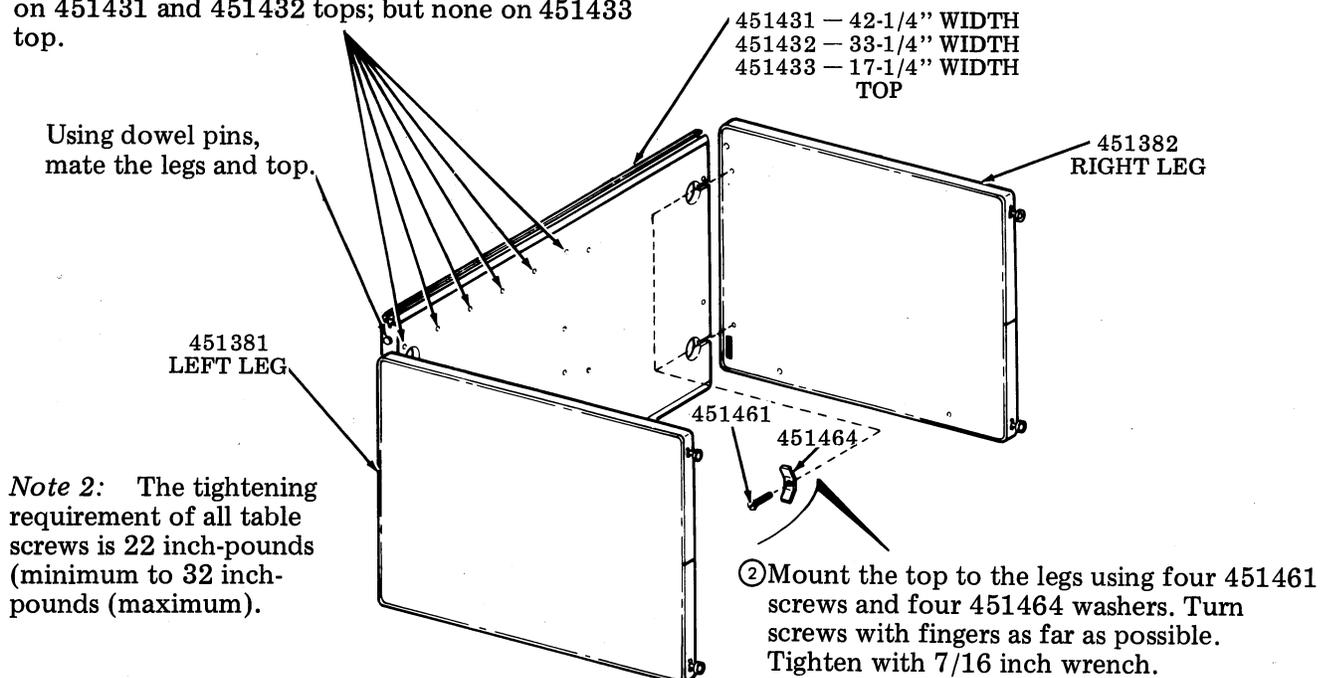

Fig. 82
- 3.54 Unpack and assemble the table. See Fig. 82 through 84.